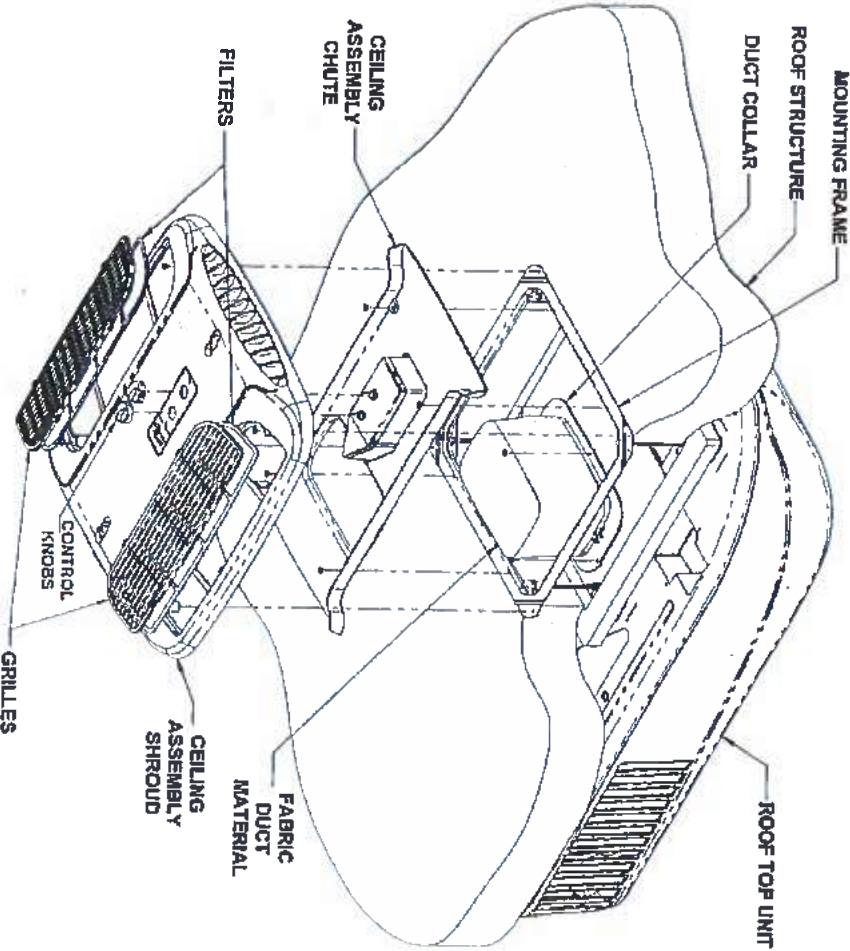

FIGURE 9
H. Raise the ceiling assembly chute to the unit mounting frame and secure the chute with 4 provided screws (See Figure 9).
K. Raise the ceiling shroud and while insuring it meshes with the chute, secure to mounting frame with 4 provided screws (See Figure 9).